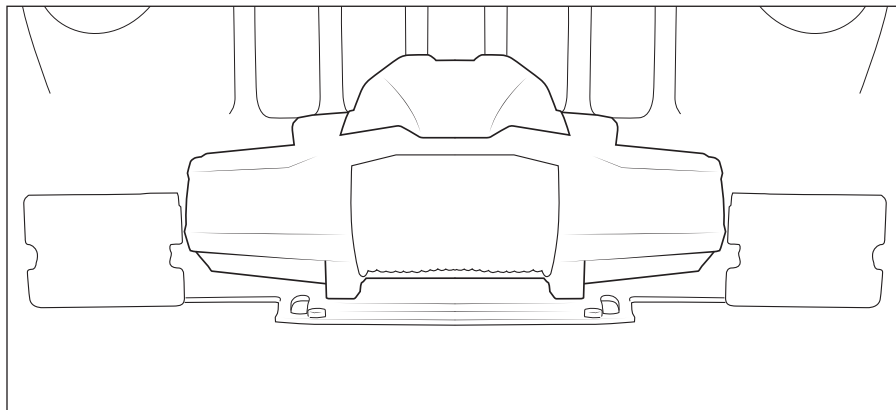

Figure 14
3. If installing a Winch: Place winch onto winch mount and bolt into place using the hardware provided by the winch manufacturer. It can be wired per the manufacturer's recommendations either now or after final bumper installation (fig. 14) Some larger bodied winches like Warn Zeon 10 will need to be slid in place one end at a time to fit past the frame flanges. Leaving these wider bodied winches loose until after step IV-2 may make that step easier, then bolt them down after that step is completed.